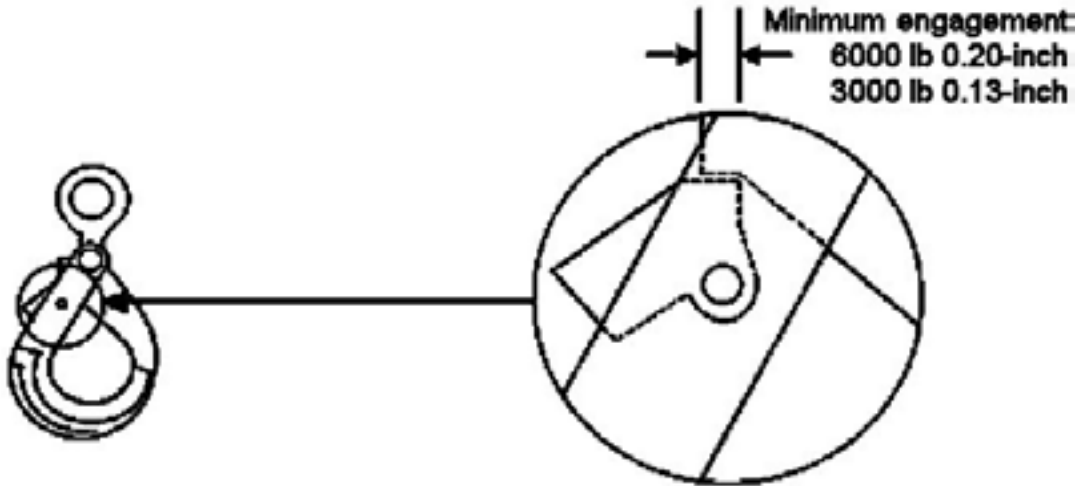

Figure 11. Examine Gate Lock Latch for rounding.
- a. Check hook for damage such as cracks, nicks, wear, gouges, and deformation. See Figure 11.
- iii. Examine lock latch for rounded edge, see Figure 11.
- v. Ensure lock latch pin is secure and flush with the latch, see figure 11.